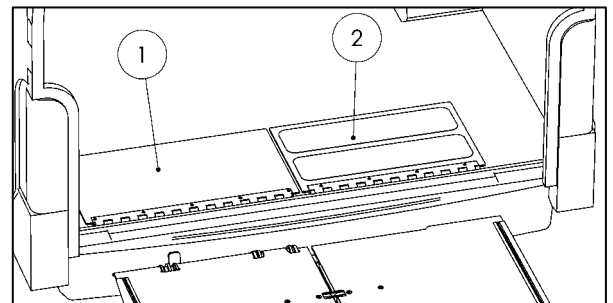

Fig. 65
- Fasten the bridge plate with the non-skid coating (2) on the right side. The non-skid coating must face upward when the bridge plate is folded shut (see Fig. 65).
- Fasten the non-coated bridge plate (1) on the left side (see Fig. 65).